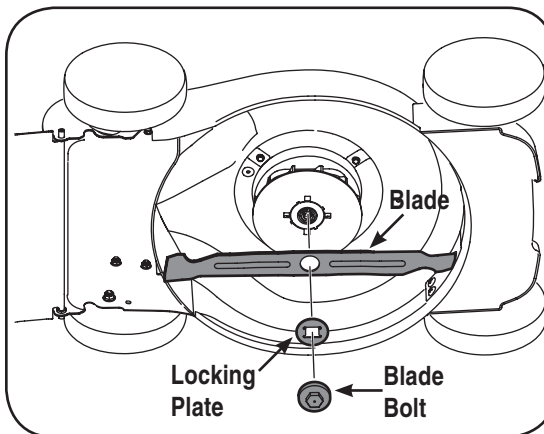

Figure 5-3: Remove blade and hardware.
5. Place the cutting blade, locking plate, and blade bolt on the motor shaft and thread the blade bolt in finger tight. Refer to Figure 5-3.